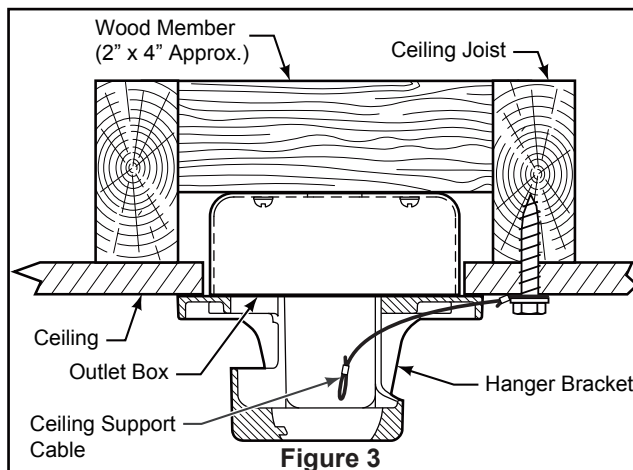

Figure 3
- ☐ 1. Securely attach the hanger bracket to the outlet box using the outlet box screws and washers supplied with the outlet box. (Figure 3)
- ☐ 2. Drill a 1/4" pilot hole into the building structure to prevent splitting or cracking with installation of the lag bolt. Using the 3/8" x 2" lag bolt and flat washer, attach safety cable to ceiling joist or wood structural member. The lag bolt will pass through the flat washer, safety cable loop, and into the building structure. (Figure 3)
NOTE: Ceiling support cable cannot be secured to outlet box only, it must be directly secured to ceiling joist or structural member using the 3/8" x 2" lag bolt and flat washer. (Figure 3)